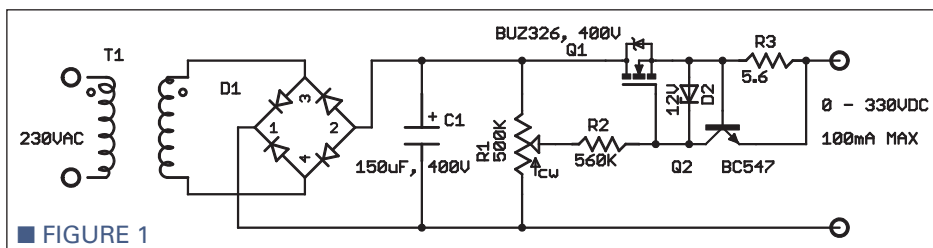

FIGURE 1
As for what box to buy, I don't have any specific recommendations. There are dozens of manufacturers and the products are pretty much all the same. The boxes are black and are approximately 9 x 6 x 2 inches in size. They have an antenna input connector and one or more outputs that go to the TV antenna input or the video/audio inputs on the TV set. All have a remote control and most include all the cables you need for connections. The connections are pretty simple and are described in detail in the included instruction manual. However, here are your choices in a nut shell. Figure 1 shows the back panel of my box.
■ **FIGURE 1.** Typical back panel of a DTV converter box. Note the smart antenna jack that is designed to attach to one of the newer amplified rotational indoor antennas. (And the Do Not Temper label! - Ed.)
In Figure 1, there is a jack for a "smart antenna." A smart antenna is a new high-tech type of indoor antenna that is basically omnidirectional and self-adjusts to signal level. When connected to the converter box, it senses channel changes and then adjusts itself to pick up a signal. The internal mechanism is like having an antenna rotor since it scans the horizon for a signal then optimizes the signal level. There's no having to get off the couch to tweak the position of the rabbit ears or add the aluminum foil. If you are still using the old rabbit ears, just be aware that there have been some real upgrades to indoor antennas. Many are amplified to give even better reception. Check out the smart antennas next time you are in an electronics store.
Q I want to construct a cheap and reliable simple AC to DC power supply, adjustable from 0 to 480 VDC at 100 mA. I have a circuit (Figure 1) for one that goes to 330 VDC. What components and what values should I use for this circuit to bring the output up to 480 VDC? I also want to connect a 500V digital panel meter at the output.